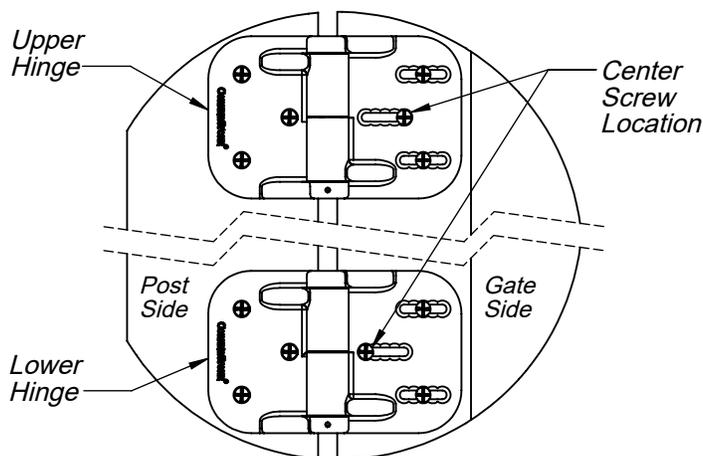

Figure 3
- 2.) When attaching the hinge to the gate, begin by centering screws in the top and bottom slots only (Figure 3). Make all final adjustments to the gate and tighten the (4) screws.
- 3.) With the gate secured, install the final (2) screws in the center slots located as shown in Figure 3 (top hinge = far right of slot, bottom hinge = far left of slot).
- 1.) To adjust the position of gate, remove the "gate side" center screws of both upper and lower hinges (Figure 3).
- 3.) When desired adjustment is achieved, re-engage the (4) screws so that they seat within one of the adjustment countersinks. Re-install the center screws as described in the mounting instructions. New pilot holes will be required for the center (2) screws.